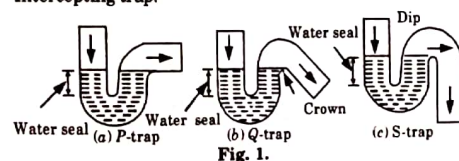

Fig. 1.
- According to shape traps may be P-type, Q-type and S-type as shown in Fig. 1(a), (b) and (c).